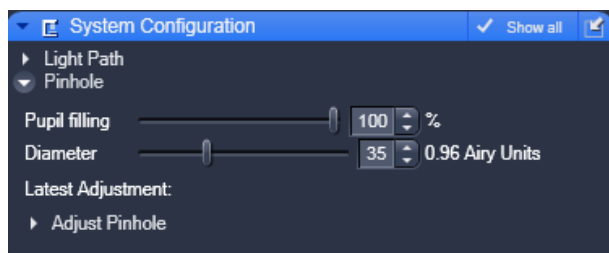

Fig. 9-32 Pinhole configuration panel
- Click on the **Pinhole** tab to open the **Pinhole configuration** panel (see Fig. 9-32). Click on any other register to leave the panel.
In the **Pinhole** configuration panel you can set the pinhole diameter of the LSM using the Diameter slider, scroll arrows or the input box (Fig. 9-32). The display of the input box gives the diameter in μm . The Pinhole diameter in Airy units is automatically calculated and displayed beside the input box.
An optional iris in the excitation beam allows you to enlarge the size of the confocal volume by decreasing the pupil filling. If present a **Pupil filling** slider and input box will be available in the Pinhole menu (Fig. 9-32). You can enter a value by typing, using the arrows or the slider. The Airy units displayed right of the Diameter slider and input box will be updated automatically.